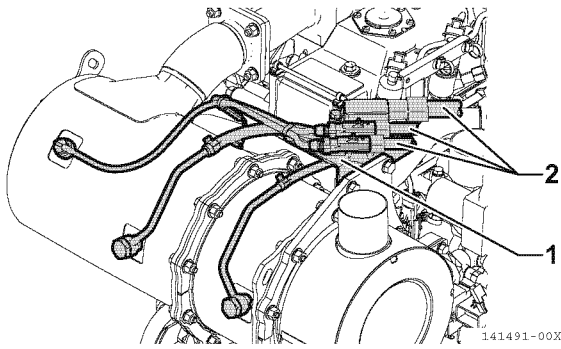

Figure 13-19
- Remove the exhaust differential pressure sensor connected to the sensor bracket (1 **Figure 13-19**) and the wiring from the engine or driven machine that is connected to the exhaust temperature sensor couplers (2 pcs.) (2 **Figure 13-19**).